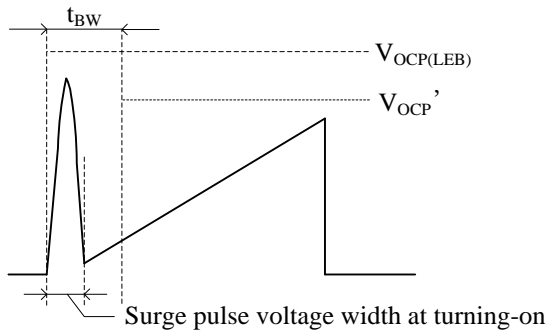
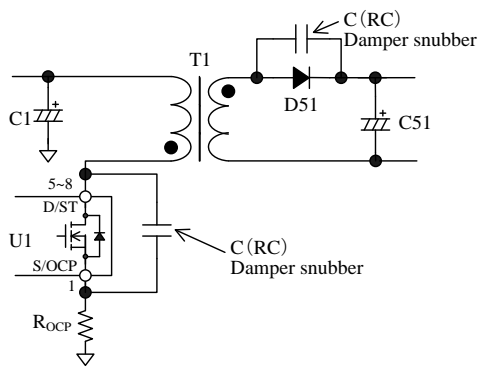

Figure 10-12. S/OCP Pin Voltage
Figure 10-13. Damper Snubber
During the Leading Edge Blanking Time, the OCP threshold voltage becomes  $V_{OCP(LEB)} = 1.69\text{ V}$  which is higher than the normal OCP threshold voltage as shown in Figure 10-12. Changing to this threshold voltage prevents the IC from responding to the surge voltage in turning-on the power MOSFET. This function operates as protection at the condition such as output windings shorted or unusual withstand voltage of secondary-side rectifier diodes.
When the power MOSFET turns on, the surge voltage width of the S/OCP pin should be less than  $t_{BW}$ , as shown in Figure 10-12. In order to prevent surge voltage, pay extra attention to  $R_{OCP}$  trace layout (see Section 11.2). In addition, if a C (RC) damper snubber of Figure 10-13 is used, reduce the capacitor value of damper snubber.